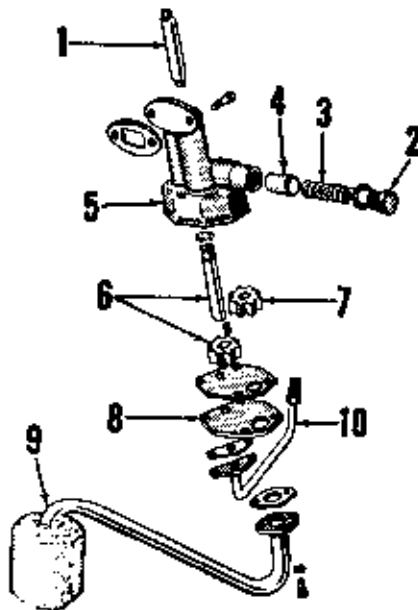
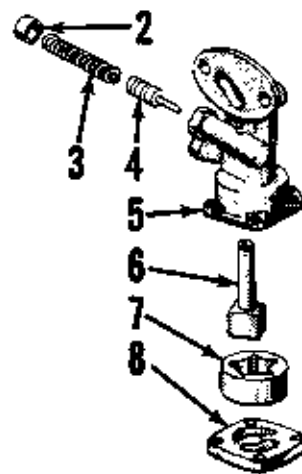

Fig. FO21—Exploded view of gear type oil pump assembly used in original production of the model NAA tractor. Pump body (5) may be either cast iron or die cast.
Fig. FO22—Exploded view of "G-rotor" type pump available for service installation in model NAA engines.
Note: Original production oil pumps were of the gear type as shown in Fig. FO21. Body (5) of pump was changed from cast iron to aluminum on later service pumps. All parts are available for servicing the gear type pumps except the pump body. Complete gear type pump assemblies are
not available for service. Therefore, if necessary to renew either the pump body or complete gear type pump, a later production G-rotor type pump (See Fig. FO22) must be used. In addition, the pump inlet tube (9—Fig. FO21), outlet (pressure) tube (10) and tube to pump gaskets must be discarded and the later type installed.
38. Refer to Fig. FO21. The oil pump assembly is mounted inside the cylinder block and is retained to right hand wall of same by two Allen head bolts. The bolt heads are located on right exterior surface of block. Pump is driven by the ignition distributor.
39. Refer to Fig. FO22. Pump removal and installation procedure is same as for gear type pump. See paragraph 38. To disassemble the pump, remove the cover (8) and withdraw the inner rotor (6) and outer rotor (7). Examine the parts for wear or scoring. Relief valve spring (3) should test 9.8 lbs. when compressed to a height of 1.56 inches.